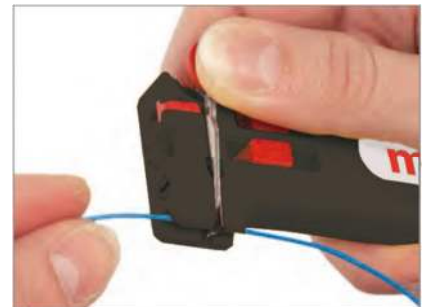

Figure 6
6. To use the Wire Cutter for wire up to 1.0mm diameter (18 AWG), insert the wire and depress the Stripper Blade Lever. See Figure 6.